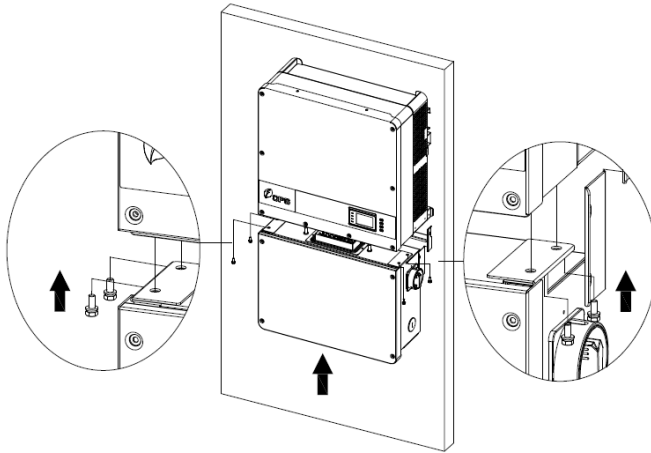

Figure 3-13 Installation of the Wiring Box
- Step 4** Secure the wirebox to the main enclosure by using the **M6x18 screws** (4pcs) to fasten the wirebox. (see Figure 3-13). Tool required: No.3 Phillips head screwdriver or 10mm Wrench, torque value of 4 Nm (35.4in-lbs)